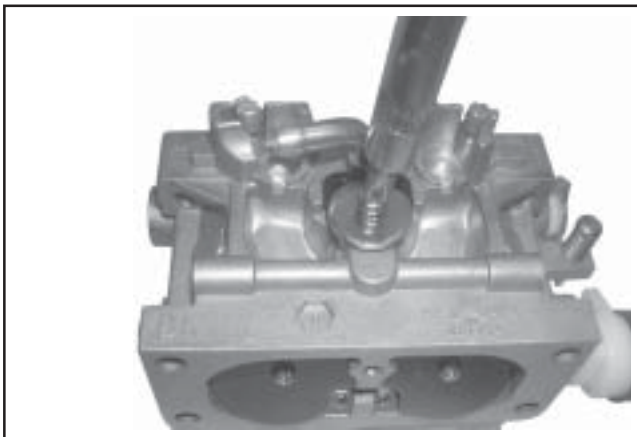

Figure 5-52. Removing Screw and Washer.
4. Remove the screw securing the flat washer and ground lead (if equipped), from the top of the carburetor; then carefully pull (lift) out the two slow jets. The slow jets may be size/side specific, mark or tag for proper reassembly. Note the small O-Ring on the bottom of each jet. See Figure 5-52 and 5-53. Save parts for cleaning and reuse unless a Jet Kit is also being installed. Clean the slow jets using compressed air. Do not use wire or carburetor cleaner.